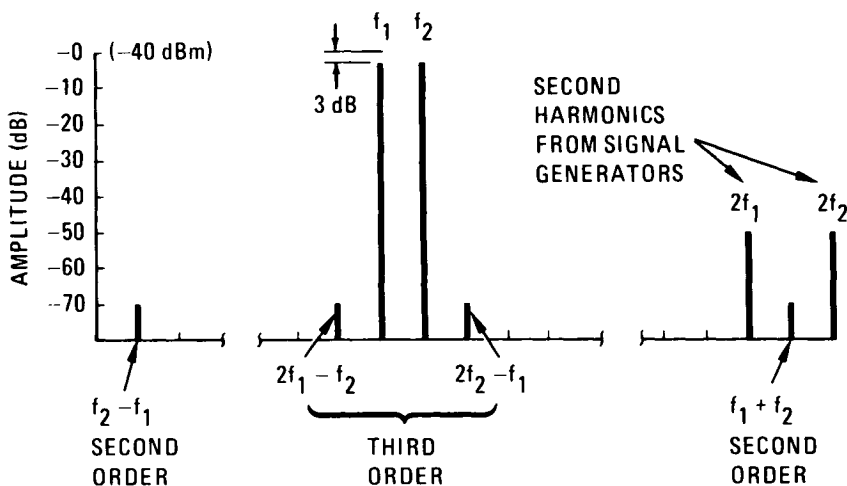

Figure 4-6. Intermodulation Distortion Products
- Reduce SCAN WIDTH PER DIVISION to 50 kHz, keeping the signals centered with FINE TUNE. Adjust the signal generators so that the signals are separated by 50 kHz (one division) and are 3 dB below the LOG REF graticule line (see Figure 4-6).